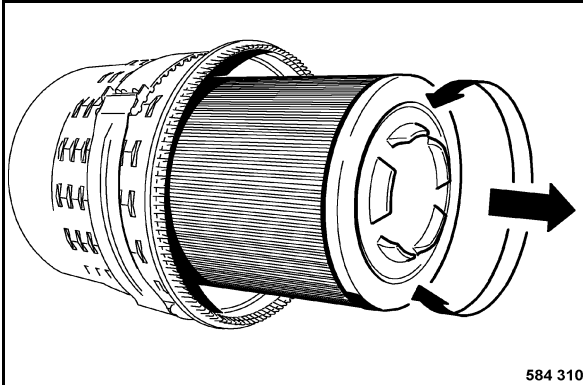

Fig. 184
- Pull out the air filter (Fig. 184) with light turning movements.